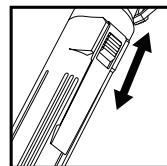

fig.1
- Turn on (or off) the device by pushing downwards (or upwards) as **fig.1**;